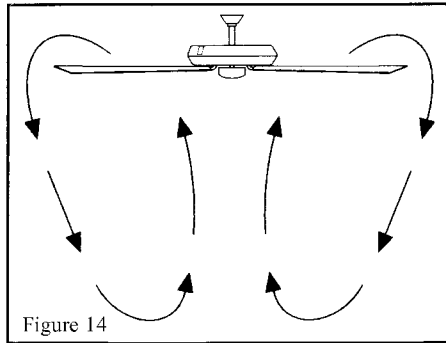

Figure 14
**Cool weather** – (Reverse) An upward airflow moves warm air off the ceiling area as shown in Figure 14. This allows you to set your heating unit on a lower setting without affecting your comfort.